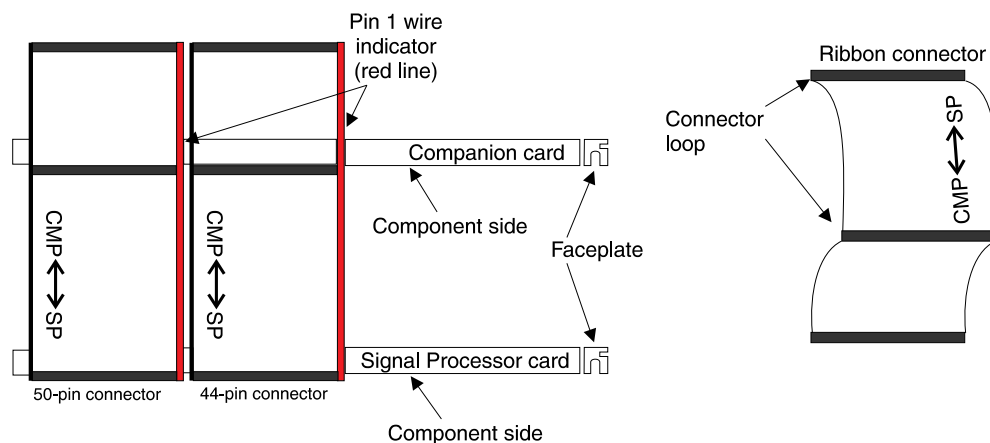
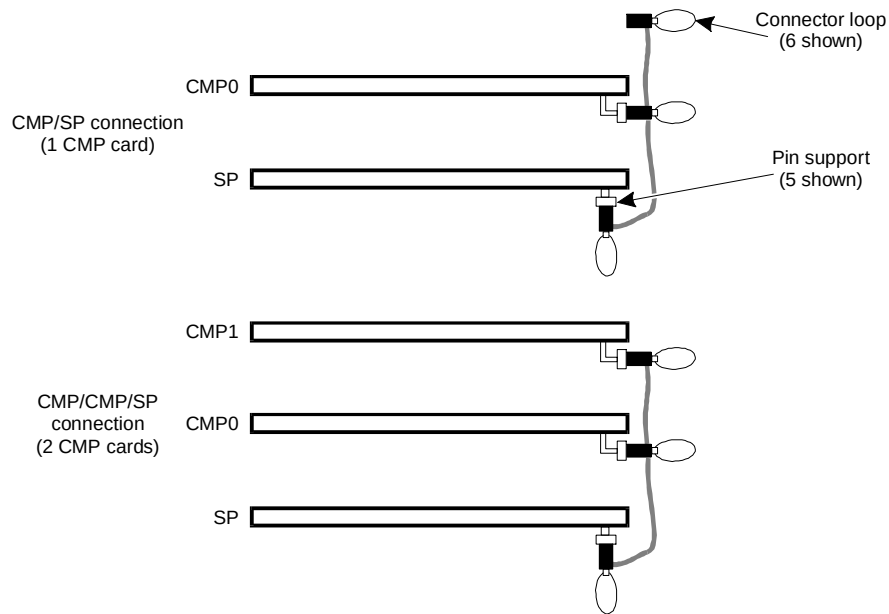
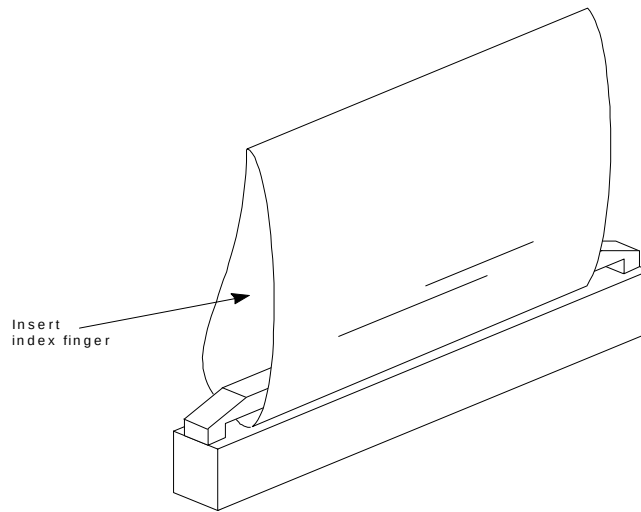

Figure A-3. Top view of SP/CMP Bus Cables
Figure A-4. End view of SP/CMP Bus Cables
Figure A-5. SP/CMP Connector Loop
Because of space limitations on the SP and CMP circuit cards, the SP/CMP bus cable arrangement is not designed with ejectors similar to the TDM bus cable (see Figure A-3 and Figure A-4). Therefore, great care must be used when removing the SP/CMP connectors from the circuit cards. Use the following procedures to remove the SP/CMP Bus cable from the SP and CMP cards.
1. Insert an index finger into the plastic loop provided with each connector on the CMP card. See Figure A-3, Figure A-4, and Figure A-5.
3. Insert an index finger into the plastic loop (See Figure A-3, Figure A-4, and Figure A-5) provided with the SP connector and hold the card steady with your free hand.
6. Loosen the four 1/4-turn fasteners on the front of the peripheral bay and the seven 1/4-turn fasteners on the right side door as shown in Figure A-4.